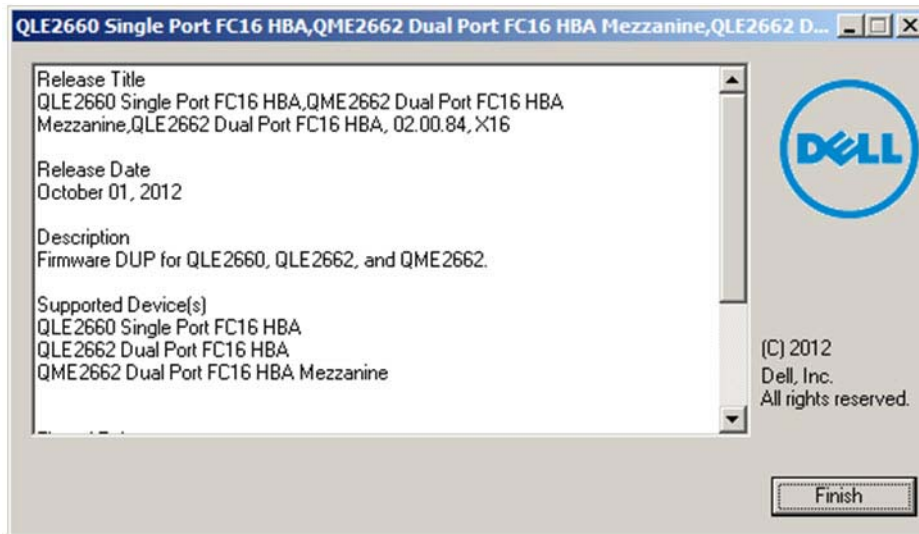

Figure 3-5. Finish Installation
4. To complete the installation, click **Finish** (Figure 3-5).